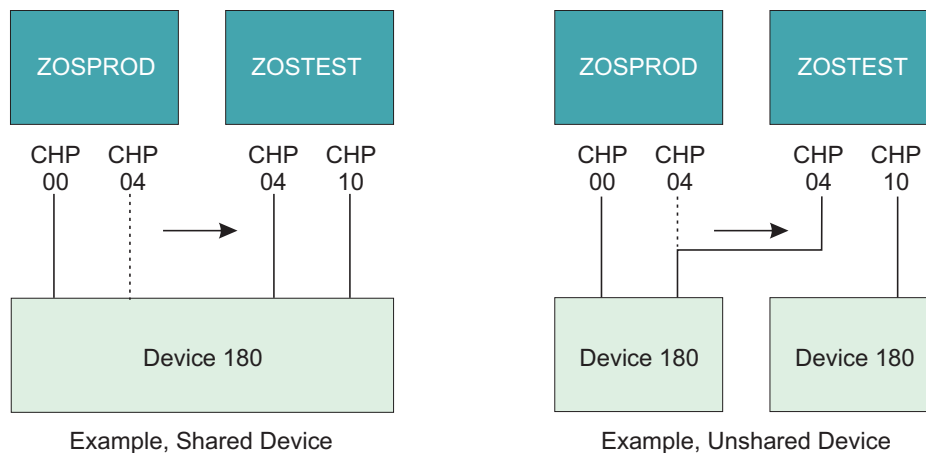

Figure 19. Two examples of duplicate device number conflicts
Examples of duplicate device number conflicts: Figure 19 provides two examples of duplicate device number conflict.
The following example shows the IOCP statement for Figure 19. Both examples use identical IOCP statements.
In Figure 19 on page 56, ZOSTEST can access device 180 only through channel path 10 if the operator takes no action in response to the conflict message.
1. Configure offline the original channel path (CHP 10 in Figure 19 on page 56).
2. Configure offline and then online the reassigned channel path (CHP 04 in Figure 19 on page 56).
3. If necessary, configure online the original channel path (CHP 10 in Figure 19 on page 56). Another conflict message is issued because a new conflict has been created. The operator then ignores this conflict as described in option A. (Access is still allowed to any non-conflicting devices on the original channel path.)
In Figure 19 on page 56, ZOSTEST can access device 180 only through channel path 04 if the preceding steps are performed in response to the conflict message.
In Figure 19 on page 56 (shared device), ZOSTEST can access device 180 through CHP 04 and CHP 10 if CHP 04 is defined to ZOSTEST in the IOCDs.
In Figure 19 on page 56 (unshared device), ZOSTEST can access either device 180 (unshared device) if one or both of the devices are assigned a new device number in the IOCDs.
In Figure 19 on page 56, if ZOSTEST is not active when CHP 04 is reassigned, or ZOSTEST is deactivated and then activated after CHP 04 is reassigned, ZOSTEST does not activate until the conflict over device 180 is resolved.